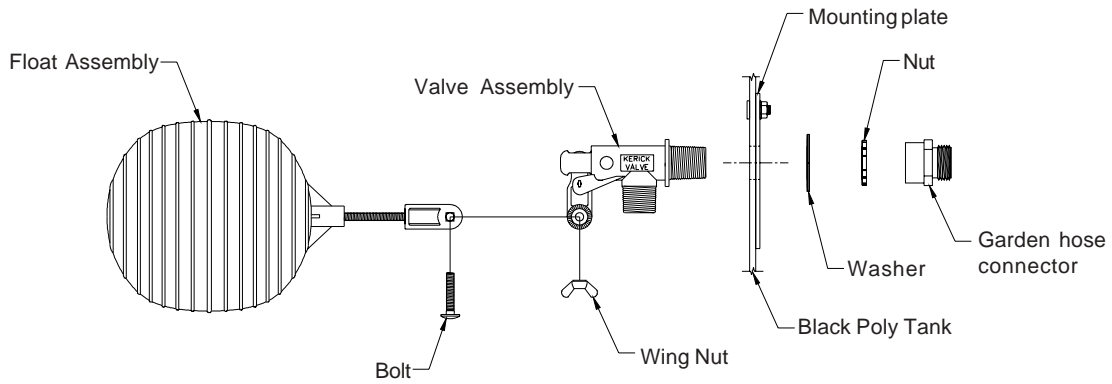

Figure 20D
- 4) Remove wing nut and bolt from float assembly and use it to attach the float assembly to the valve assembly. **See Figure 20D.**